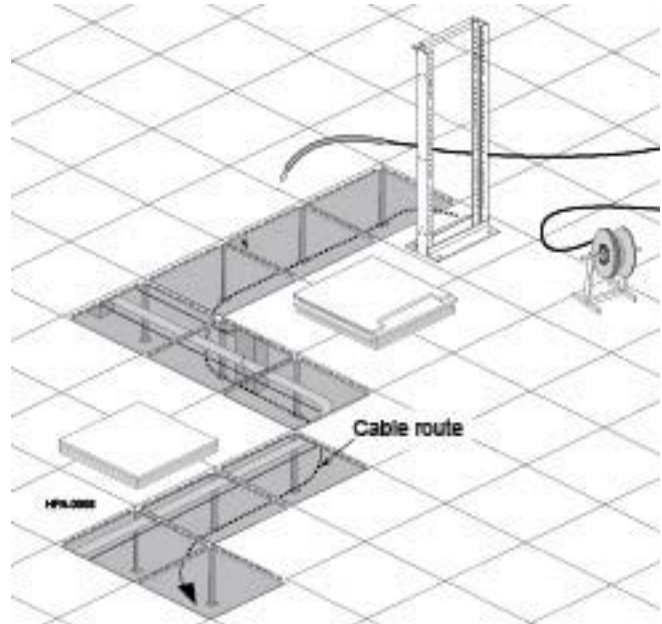

Figure 4— Reel Stand and Cable Route
**Step 2:** Place the cable reel on a reel stand so that the pulling grip/cable will pay-off the top of the reel (Figure 4).